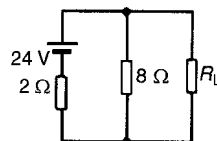

Figure 13.86
- 2 Determine the value of the load resistance R_L shown in Fig. 13.86 that gives maximum power dissipation and find the value of the power. [$R_L = 1.6\ \Omega$, $P = 57.6\ \text{W}$]